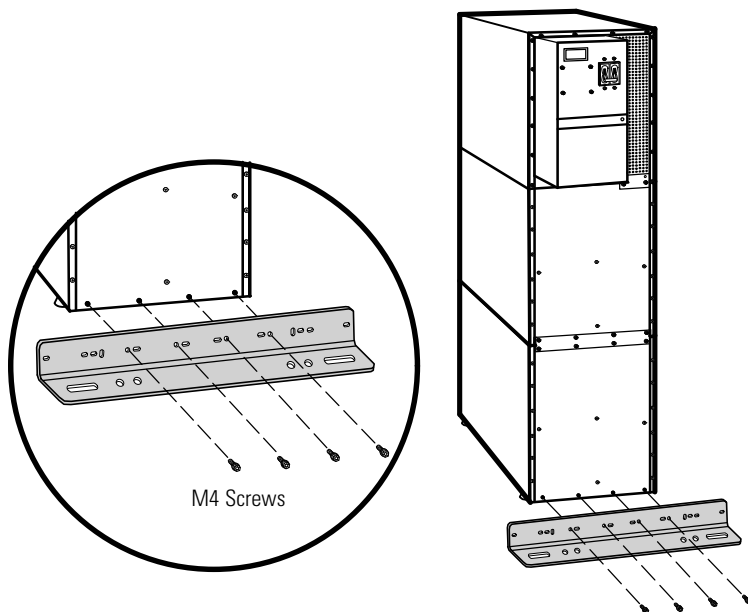

Figure 23. Stabilizing Bracket with One Cabinet
- For one cabinet, see Figure 23.